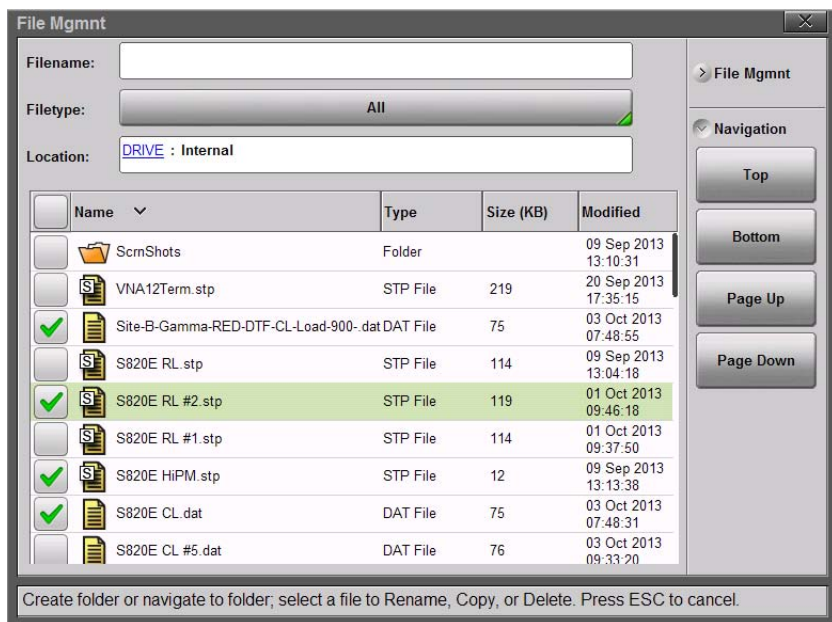

Figure 10-16. Selecting Multiple Items to Copy
2. Select the files and folders to copy. Use the check box column to select multiple files and/or multiple folders (Figure 10-16). Use the Navigation submenu buttons as needed to move through a long list of files.